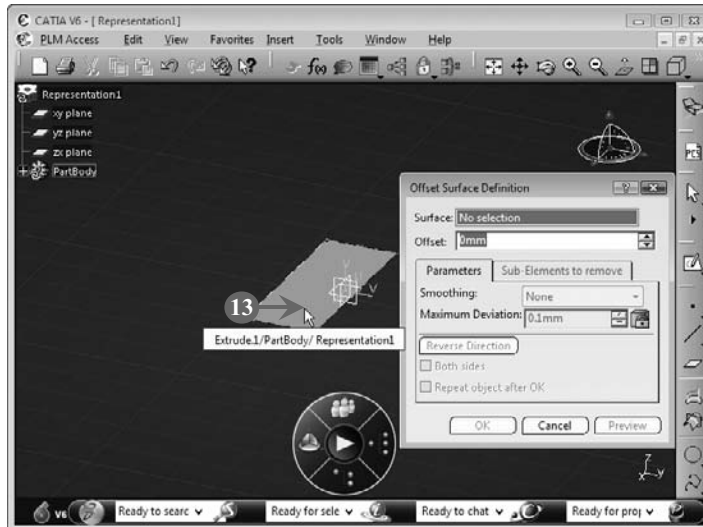

FIGURE 5.61
The **Offset Surface Definition** dialog box opens (**Figure 5.61**).
13. Select the reference surface, as shown in **Figure 5.61**: